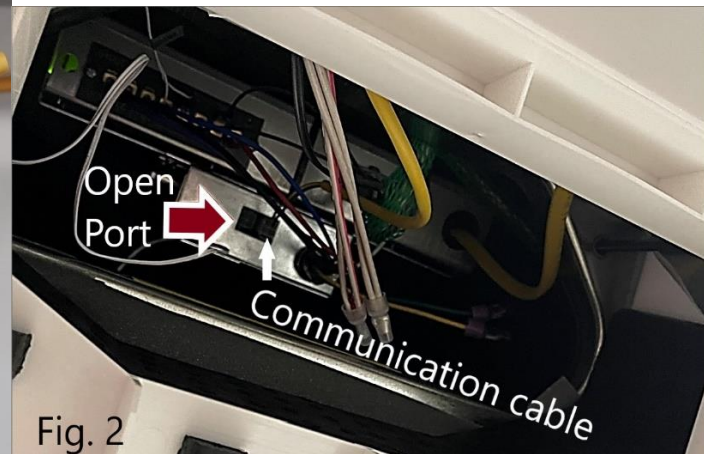

Fig. 2
1. System with one Roof A/C. Turn off the A/C, remove the return air grill, and locate the Gateway (See Figure 2). If there is an open port as seen in Figure 2 & 3, corrective action is needed. Upon completion, the wiring should be as seen in Figure 1.